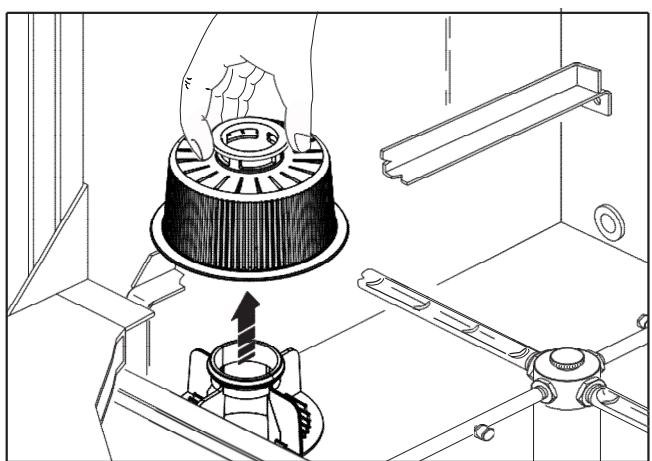

Fig. 17
2. remove and clean the wash pump filter (fig. 17) and any tank filters, if present